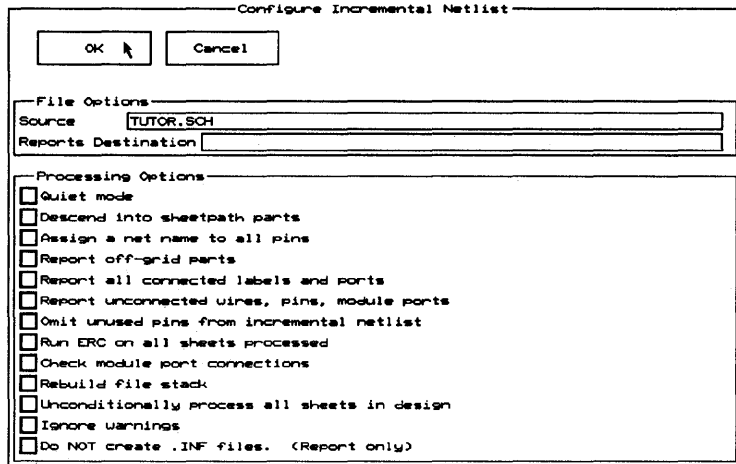

Figure 7-3. Configure Incremental Netlist screen.
2. Select **Configure INET**. The **Configure Incremental Netlist** screen (figure 7-3) displays.